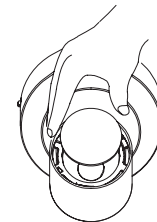

Fig 7
**Step 3:** Replace existing lens with new lens. (See Fig 7)